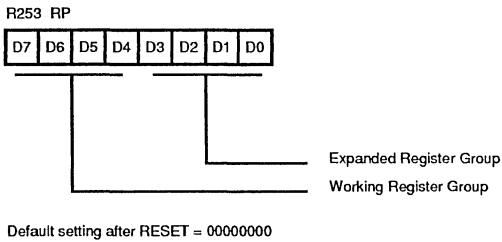

Figure 16. Register Pointer Register
The low nibble (D3-D0) of the Register Pointer (RP) select the active ERF group, and the high nibble (D7-D4) of register RP select the working register group (Figure 16). Three system configuration registers reside in the Expanded Register File at bank FH: PCON, SMR, and WDTMR. The rest of the Expanded Register is not physically implemented and is reserved for future expansion.
Register File. The 256 byte register file consists of 4 I/O port registers, 236 general-purpose registers and 15 control and status registers (R240 is reserved). The instructions can access registers directly or indirectly via an 8-bit address field. This allows short 4-bit register addresses using the Register Pointer (Figures 16 and 17). In the 4-bit mode, the register file is divided into 16 working register groups, each occupying 16 continuous locations. The Register Pointer addresses the starting location of the active working-register group.